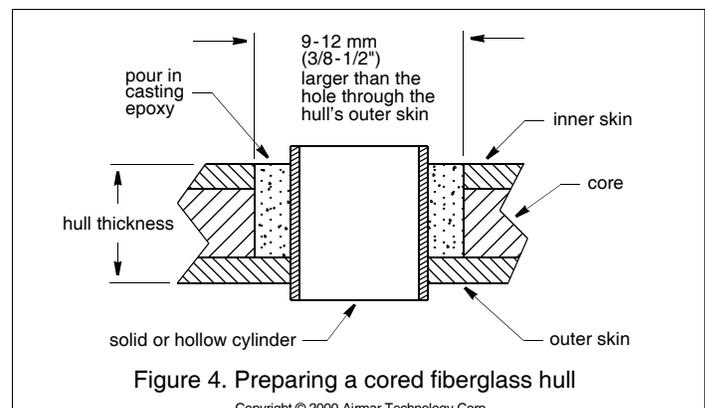

Figure 4. Preparing a cored fiberglass hull
2. Using a 51 mm or 2" hole saw, cut the hole from outside the hull through the *outer skin* only (Figure 4).